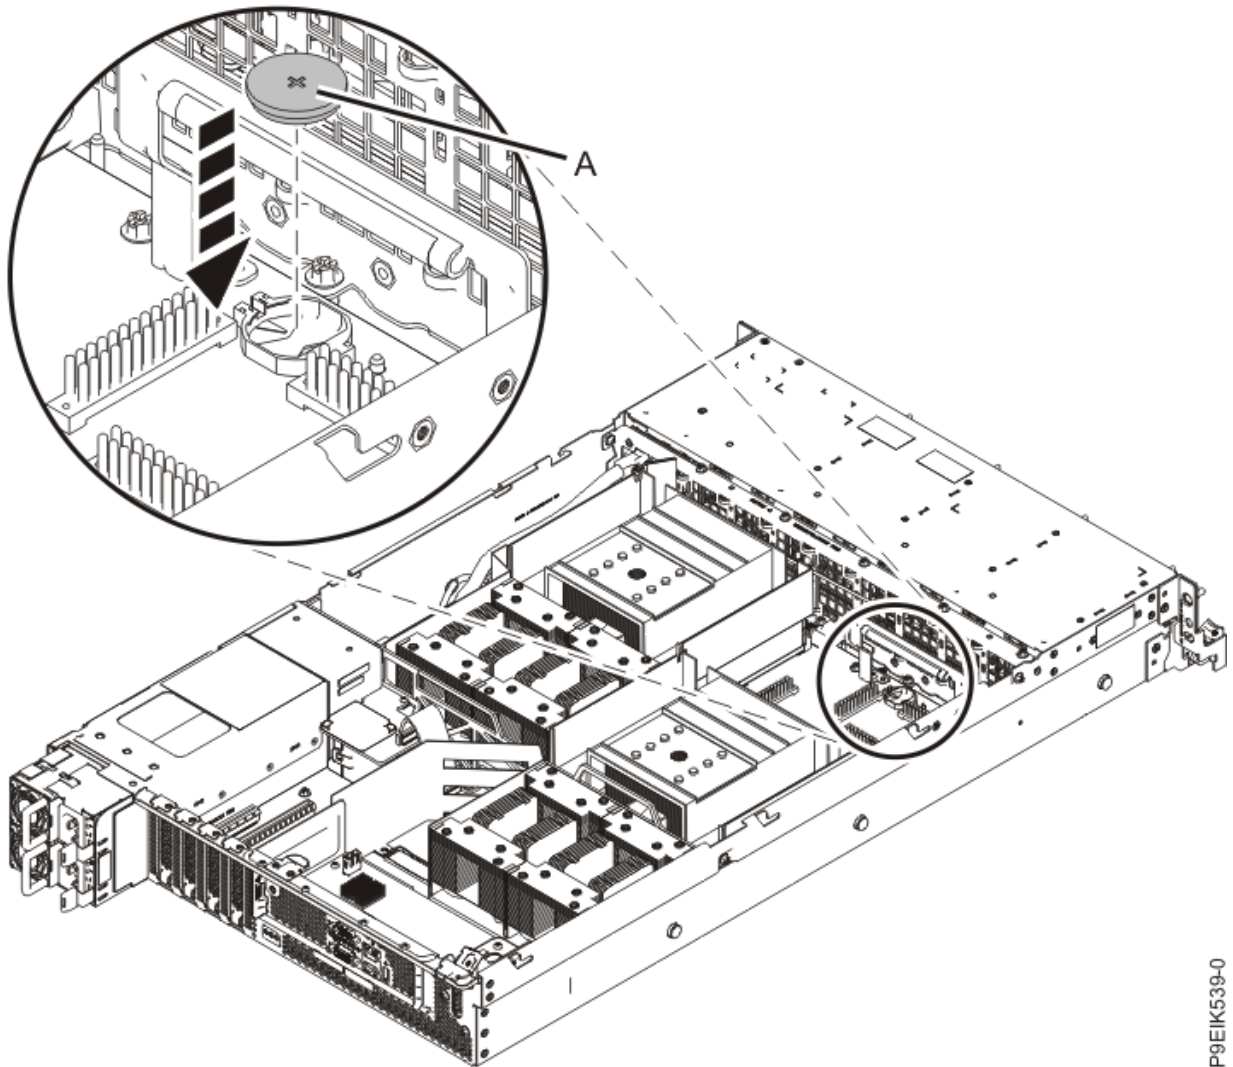

Figure 164. Replacing the time-of-day battery on the system backplane
3. Insert the time-of-day battery in the slot on the system backplane as shown in Figure 164 on page 179. Ensure to insert the battery with the correct polarity as recorded during removing of the battery.